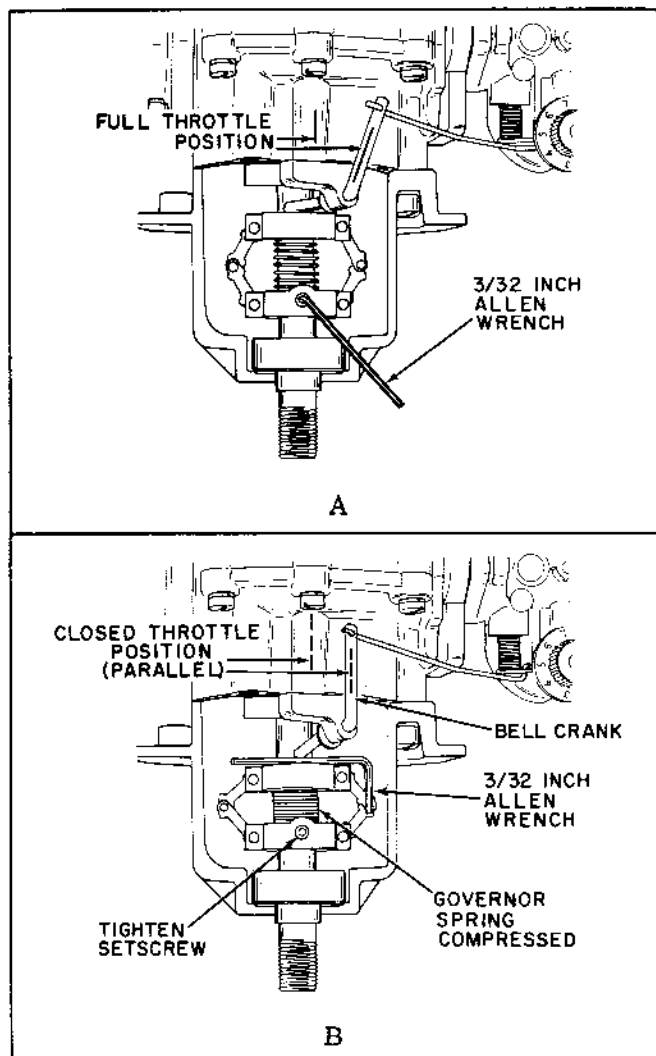

Figure 5-9. Governor Adjustment
- (2) Remove outboard bearing housing. Use a 3/32-inch allen wrench to loosen the set-screw (A, Figure 5-9).
- (3) Squeeze the top and bottom governor rings, fully compressing the governor spring. Hold upper arm of bell crank parallel to crankshaft and insert a 3/32-inch allen wrench as shown in B, Figure 5-9. Slide governor assembly on crankshaft so that allen wrench just touches bell crank, as shown in B, Figure 5-9. Tighten setscrew to secure governor to crankshaft.
- (4) Install bearing adapter, mount engine, and check engine speed with tachometer. At this setting, engine speed should be 3200 to 3400 rpm.